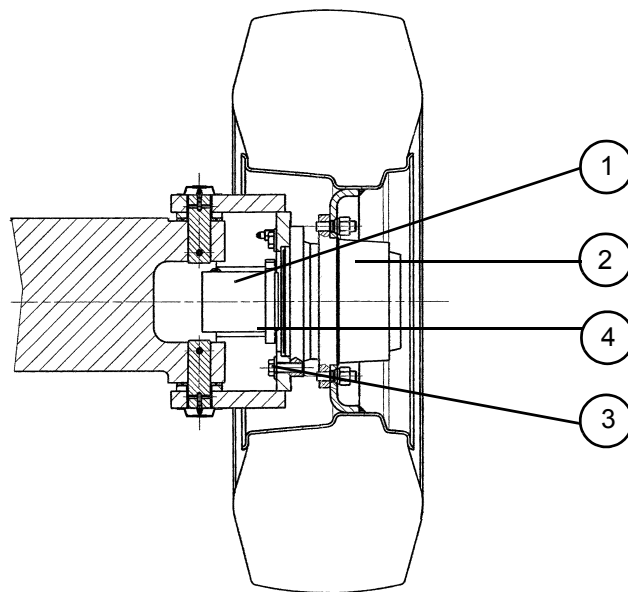

Figure 1
**NB:** *Figure 1: steering axle.